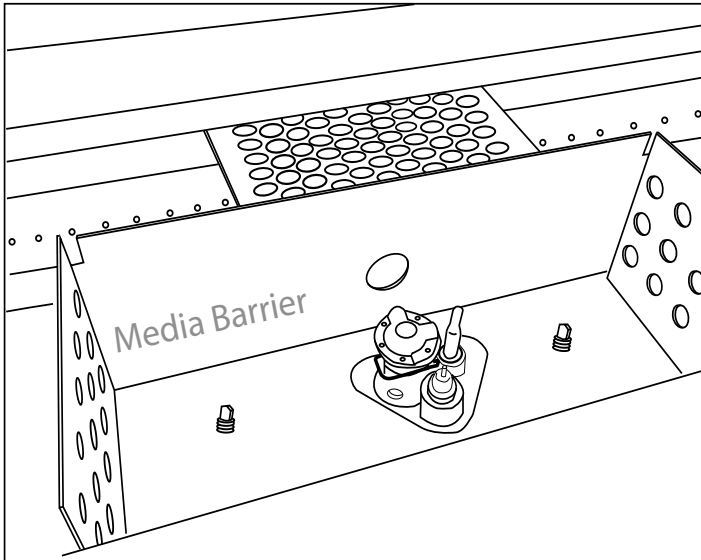

Figure 49 - Pilot box screw locations
Step 7: In the center of the burner pan where the pilot is located (*See Figure 49*), remove the pilot head. **Note:** Some media may need to be removed to gain access.